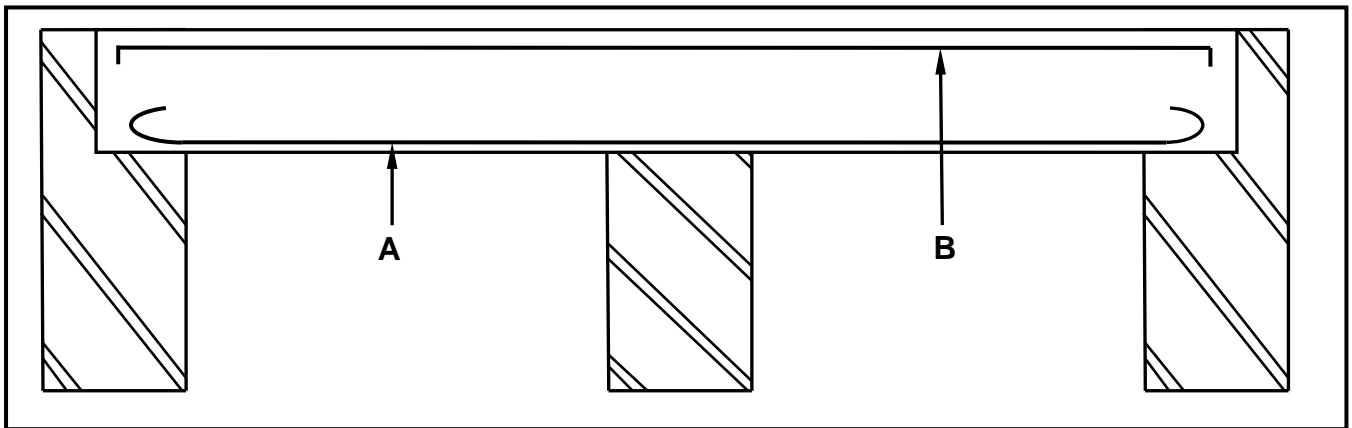

FIGURE 6.6
- 6.6 FIGURE 6.6 below shows an incomplete vertical sectional view through a continuously supported beam. Study FIGURE 6.6 and answer the questions that follow: